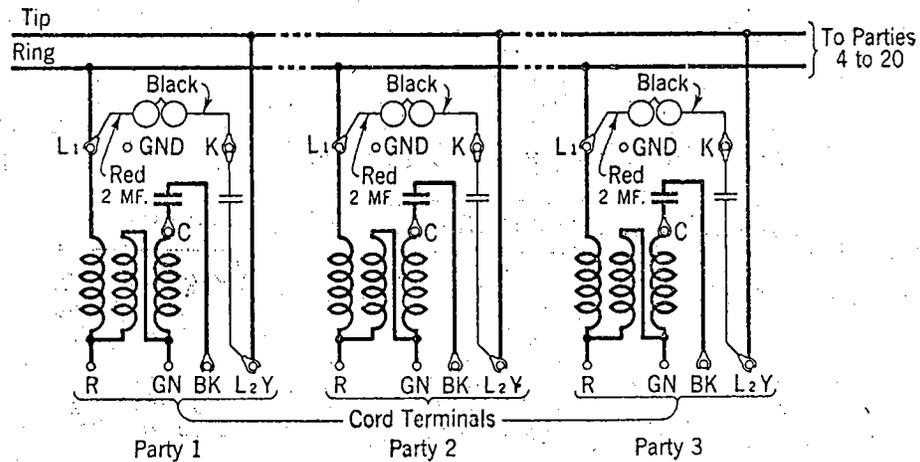

Fig. 1—Bridged Ringing Anti-Sidetone Stations—High Impedance Ringers
3.05 The connections shown in Figs. 1, 2 and 3 are for anti-sidetone subscriber sets. Similar line and ringer connections are used with sidetone subscriber sets.